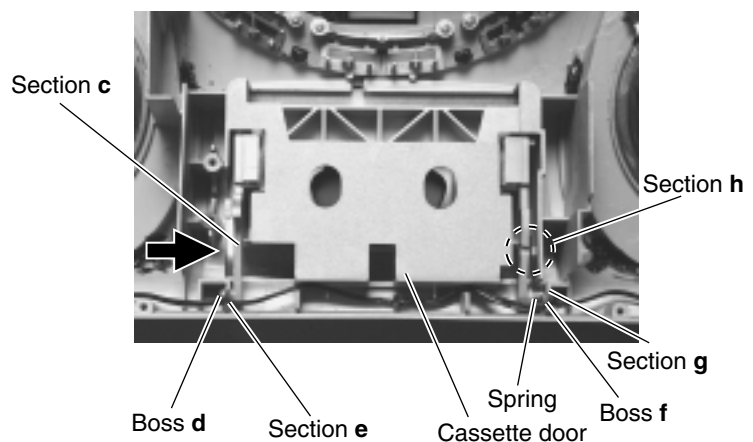

Fig.7
■ Removing the cassette door (See Fig. 7.)